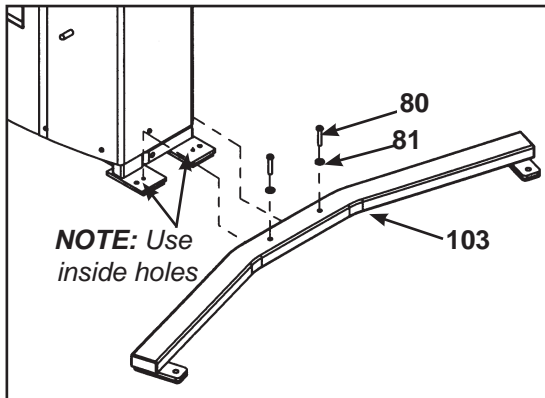

Figure 4
**4. Installing stabilizers (see steps 4A - 4D and Figure 4).**
- B. Align one of the stabilizers with the holes in the frame. See Figure 4.
- C. Secure the stabilizer using two BHSCS .375-16 x 2.00 (black, #80) and two black washers .3125 (#81) as shown in Figure 4.